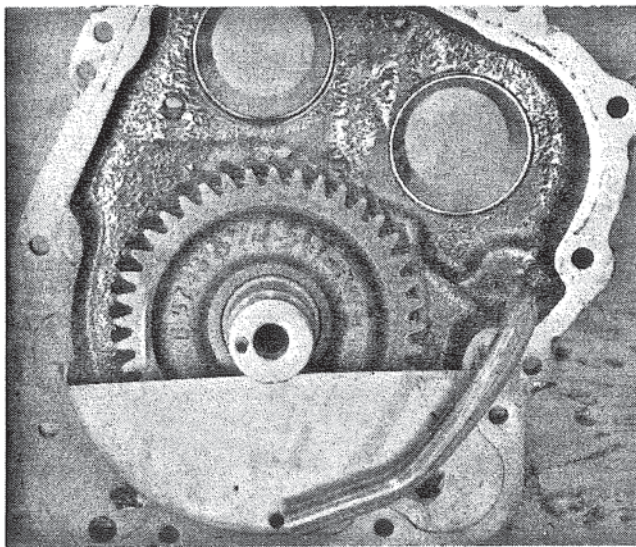

Figure 20. Removing Gear Pan.
1. **Gear Pan.** Remove the two hex head cap screws and remove the gear pan from the rear cover. Figure 20.